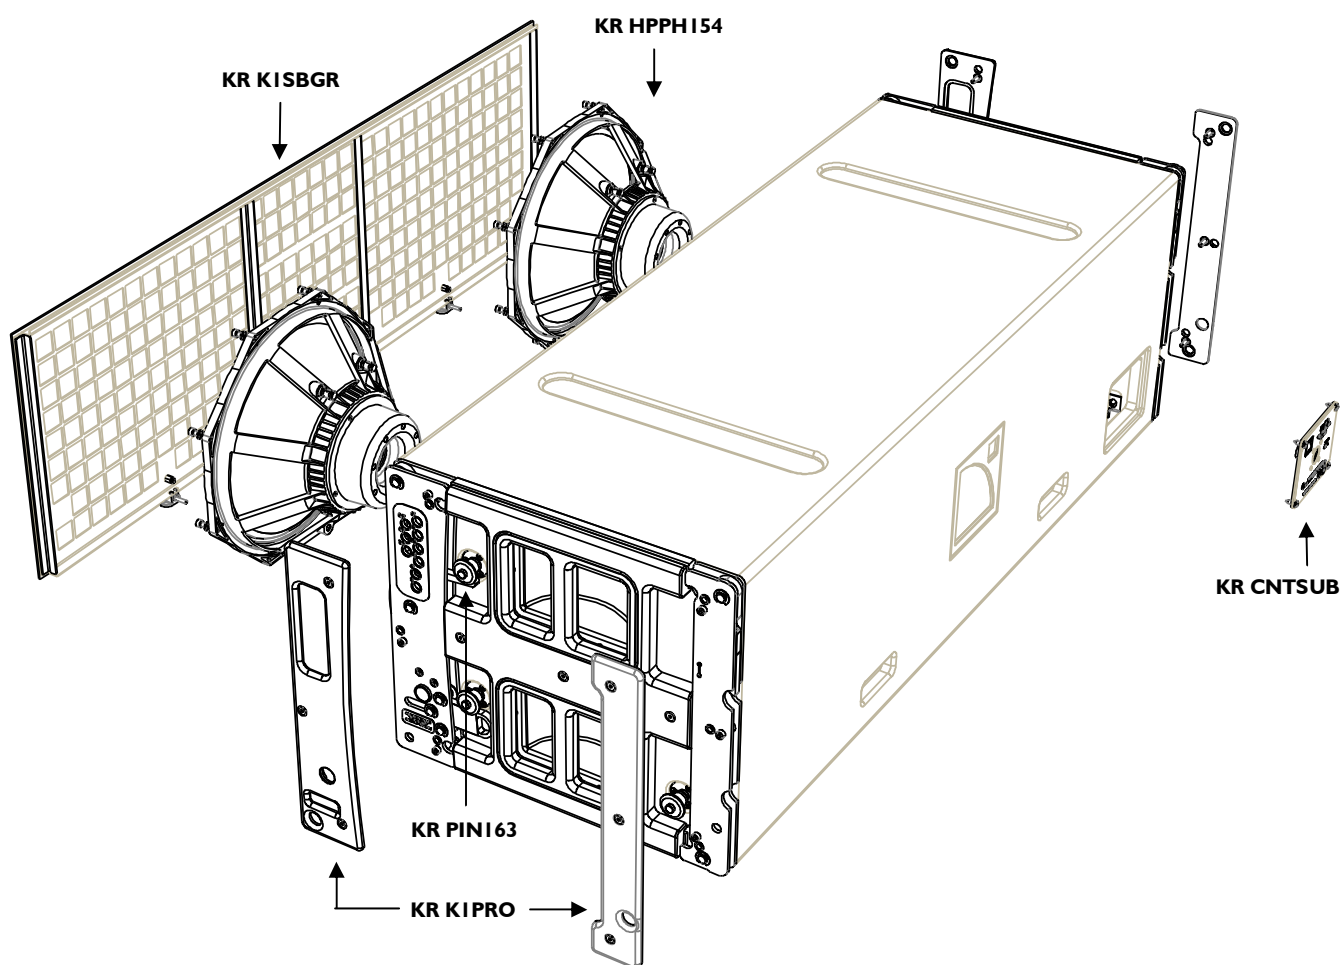

Figure 10: KI-SB exploded view
The replacement kits (KR) available for the customer are shown in Figure 10 and listed in Table 4 with reference to the corresponding service procedures. Table 5 is a list of the tools and material recommended for KI-SB service (not provided).